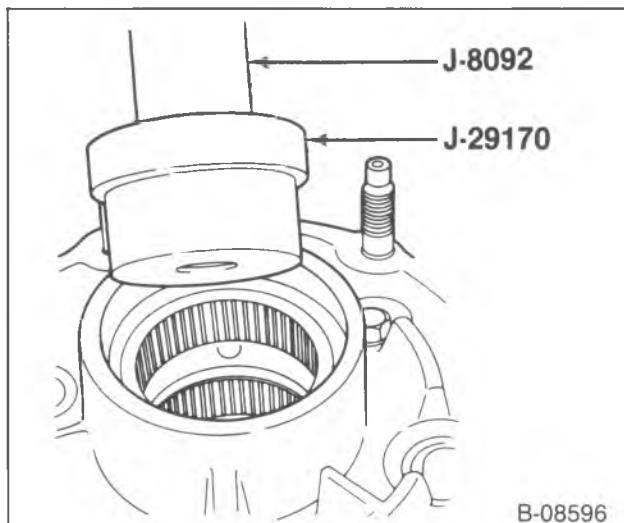

Figure 6—Input Gear Bearing Removal
5. Input gear front/rear bearing (57) using J 8092 and J 29170 (figure 6).